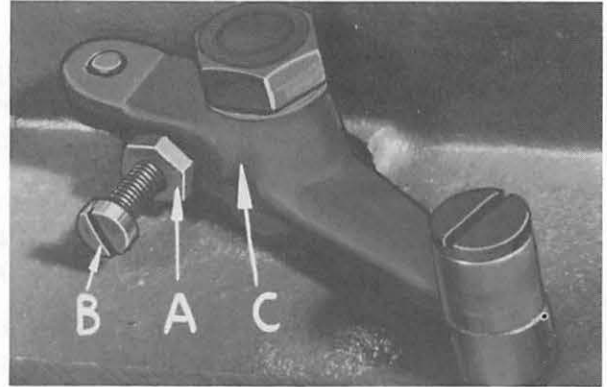
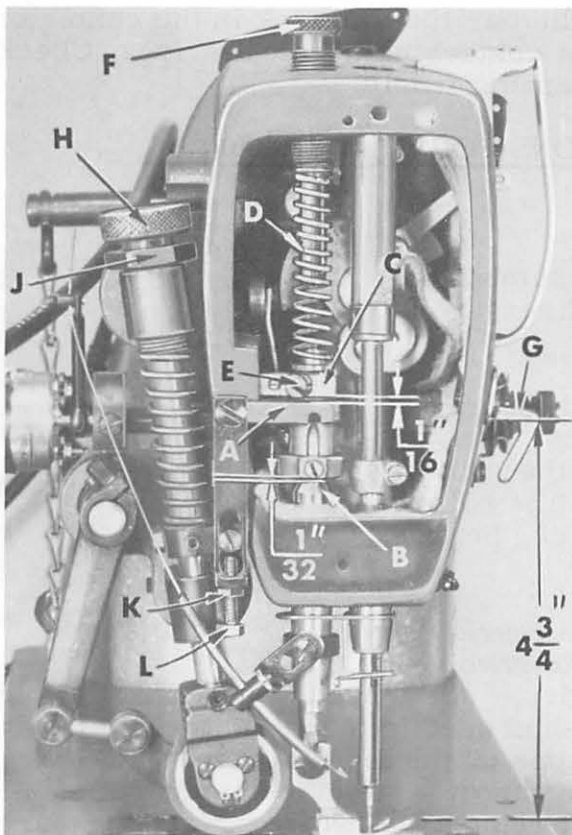

Fig. 15
Fig. 16A
The presser bar connection (A, Fig. 16A) should be set so that it is approximately $\frac{1}{32}$ inch above the lower presser bar bushing (B). This is accomplished by tipping the machine back against the rest pin, loosening the lock nut (A, Fig. 15) and relocating the stop screw (B) on the lifter lever bell crank (C). By turning the stop screw to the right or left, the proper setting of the presser bar connection is accomplished. Tighten the lock nut (A) to lock the stop screw in place.
When locating the presser bar guide (C, Fig. 16A) the presser foot must rest directly against the throat plate with the feed dog in its lowest position. The guide is set properly when there is a $\frac{1}{16}$ inch space between the bottom of the presser bar guide (C) and the top of presser bar connection (A, Fig. 16A).
Set the needle thread pull-up bracket (G) Fig. 16A) so that the underside of the bracket is $4 \frac{3}{4}$ inches above the throat plate (Fig. 16A).
Make sure there is enough pressure on the material going under the puller roller. The puller should cross over seams uniformly, but be sure there is enough pressure to insure good feeding. Turning the regulator (H, Fig. 16A) clockwise increases the pressure and counterclockwise acts the reverse. Locking nut (J) is provided to maintain this setting.